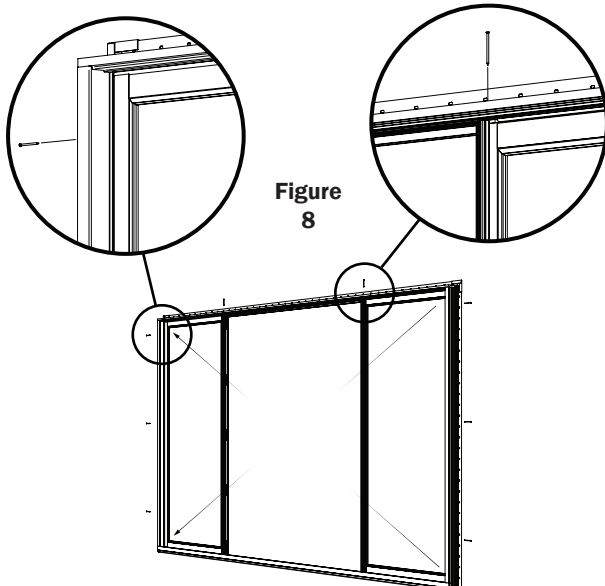

Figure 8
37. The screws in the lock can be adjusted (Figure 8) to make the door lock tighter or looser. Each hook adjusts individually.